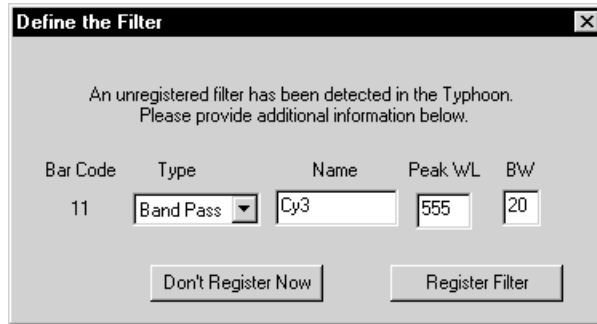

Figure 13-8. The Define the Filter window.
1. Start the Scanner Control software. The Define the Filter window appears (figure 13-8).